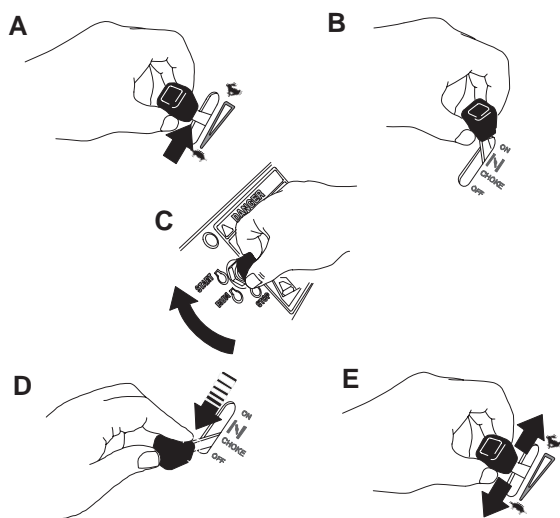

Figure 18
2. Move the throttle lever between the Fast and Slow positions (Fig 18, A).
3. Move the choke lever to the On position (Fig 18, B).
4. Turn the ignition key to the start position until the engine starts (Fig 18, C).
5. Gradually move the choke lever to the Off position (Fig 18, D). If the engine stalls or hesitates, engage the choke again until the engine warms up.
6. Adjust the throttle lever as desired (Fig 18, E).